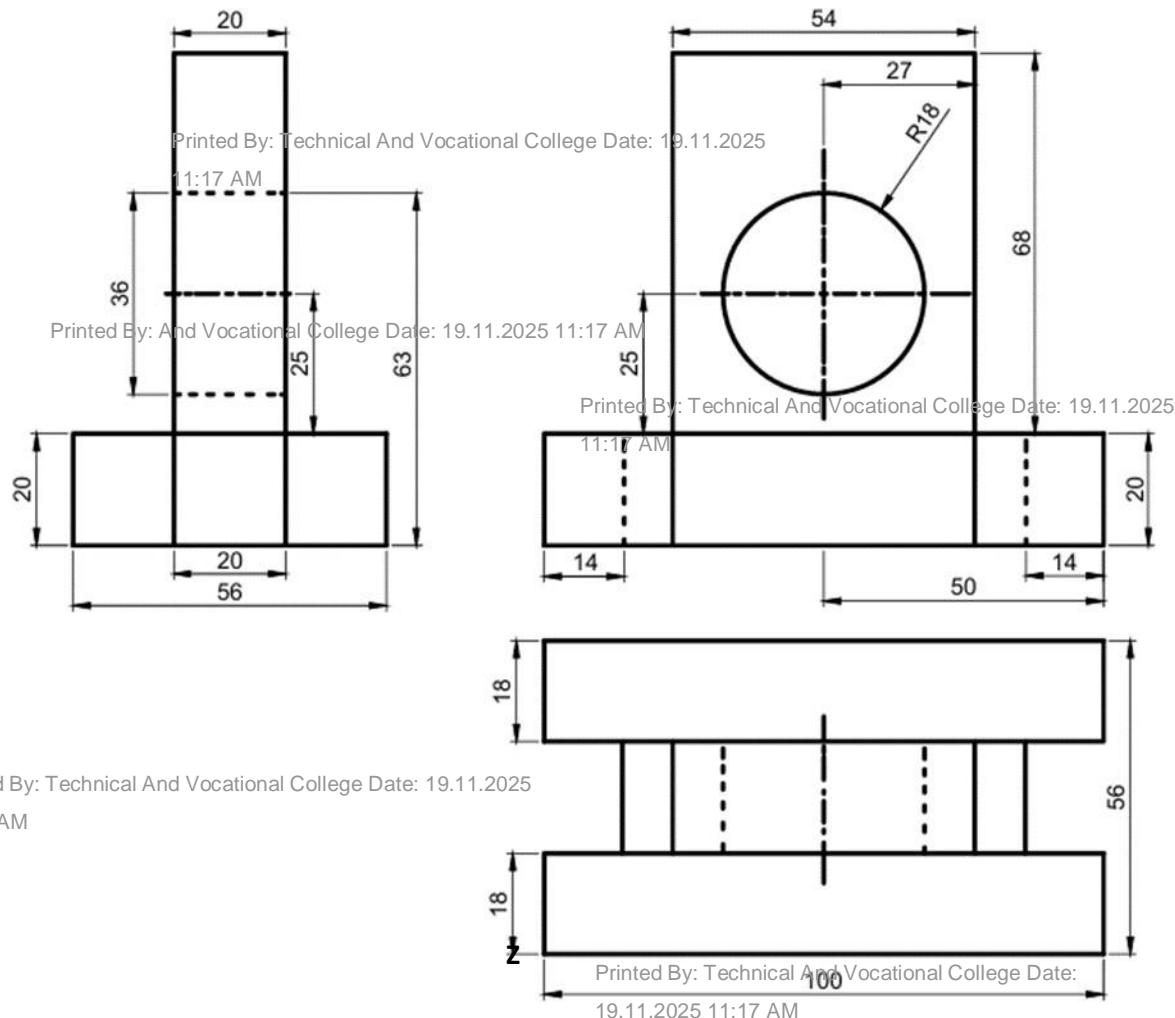

FIGURE 4
14. You are a designer in a Design company and you intend to design a machine bracket using the given views in first-angle projection as shown in Figure 4. Draw a pictorial image in oblique projection, with corner Z as the lowest point. (20 Marks)